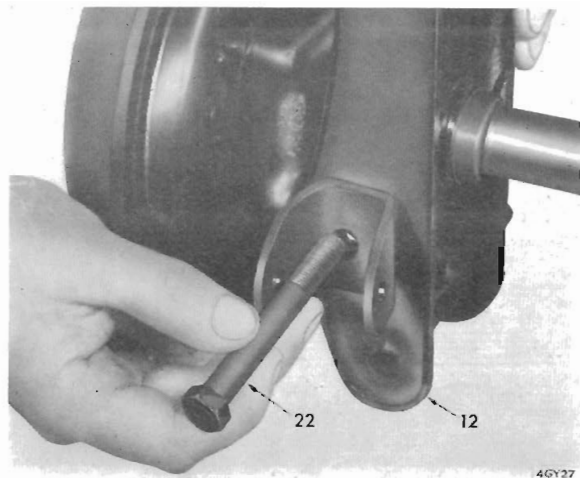
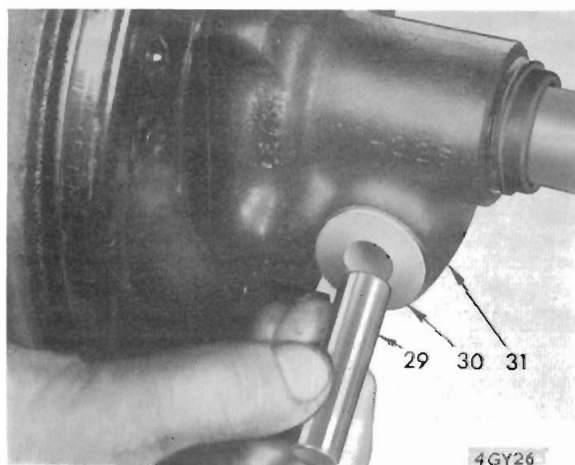

Fig. 57. Removing trunnion housing pivot bolt
Fig. 58. Removing steel bush from nylon bushes in trunnion housing
5. Remove the bolt (22), Fig. 57, and withdraw the vertical link (12) from the trunnion housing (31). Remove the steel bush (29), Fig. 58.